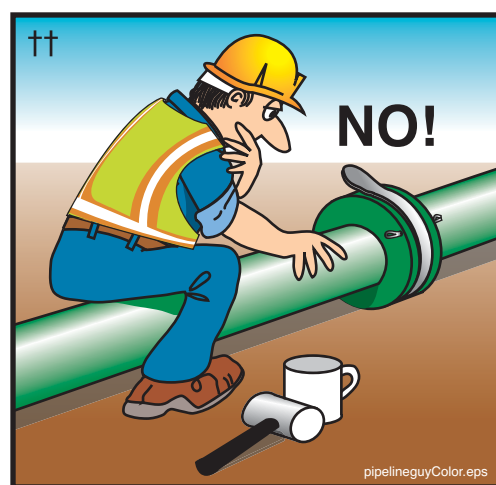

Figure 78
16.16 **⚠ WARNING** **Never stand on, sit on, or straddle a pipeline while it's in use, or whenever it is pressurized.** Pipeline wears out with each stroke of the pump. If the pipe bursts, you want to be to the side of it, not on top of it (Figure 78).